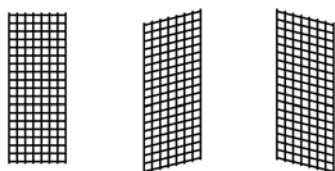

Fig. 59 Fig. 60 Fig. 61
- Sew adjusting program "95" (fig. 59).